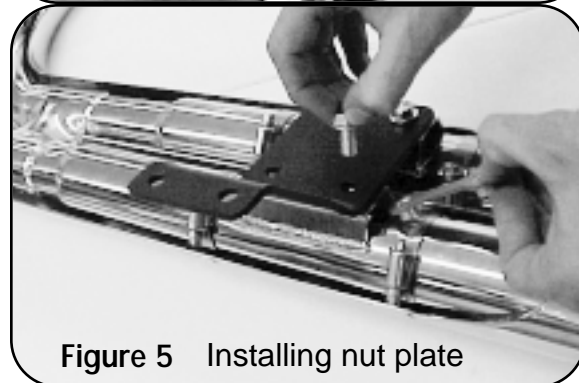

Figure 5 Installing nut plate
5. Attach mounting bracket 330 (supplied) using four 5/16"x5/8" flange bolts and two nut plates (supplied). Slide nut plates inside brackets that are welded to backside each muffler. (Figure 5) Leave them loose at this time. Use this procedure for both upper and lower muffler mounting positions.